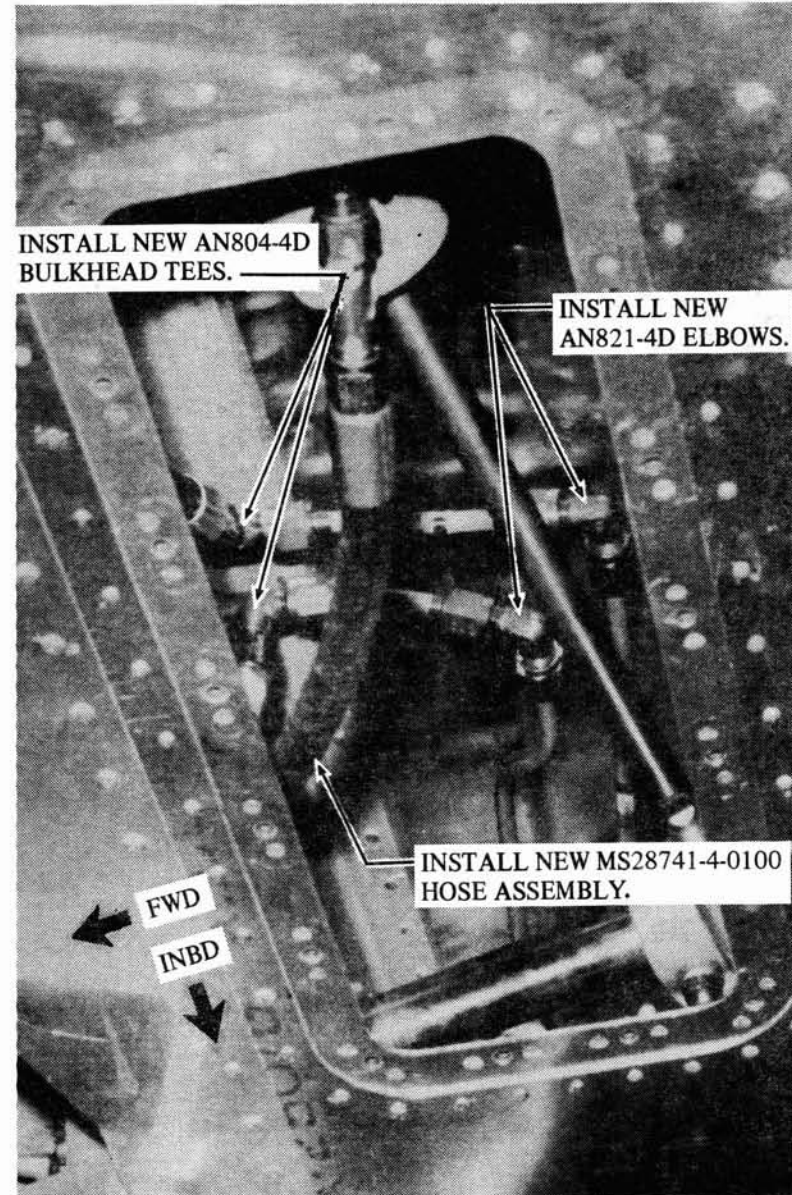

Figure 2. View Looking up at Bottom of Left Hand Wing after Rework
5. With two AN821-4D elbows, join the two pairs of tube assemblies which were formerly connected to the AN824-4D tees. (See Figure 2.)
two AN804-4D bulkhead tees (Figure 2). Position each tee so that two fittings are on the aft side of the spar web. On the forward fitting of each tee, install an AN960-716L washer on the aft side of the spar web, and install two AN924-4D nuts on the forward side of the spar web. Connect the two pairs of tube assemblies, formerly joined by the two AN832-4D bulkhead unions, to the forward and aft fittings of the two AN804-4D bulkhead tees.
9. Connect a new MS28741-4-0100 hose assembly to the other AN804-4D bulkhead tee (Figure 2), and to the fitting in the inboard end of the actuator cylinder.